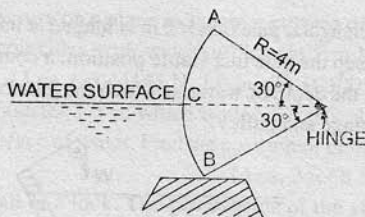

Fig. 3.60
21. Find the horizontal and vertical components of the water pressure exerted on a tainter gate of radius 4 m as shown in Fig. 3.60. Consider width of the gate unity. [Ans. $F_x = 19.62$ kN, $F_y = 7102.44$ N]